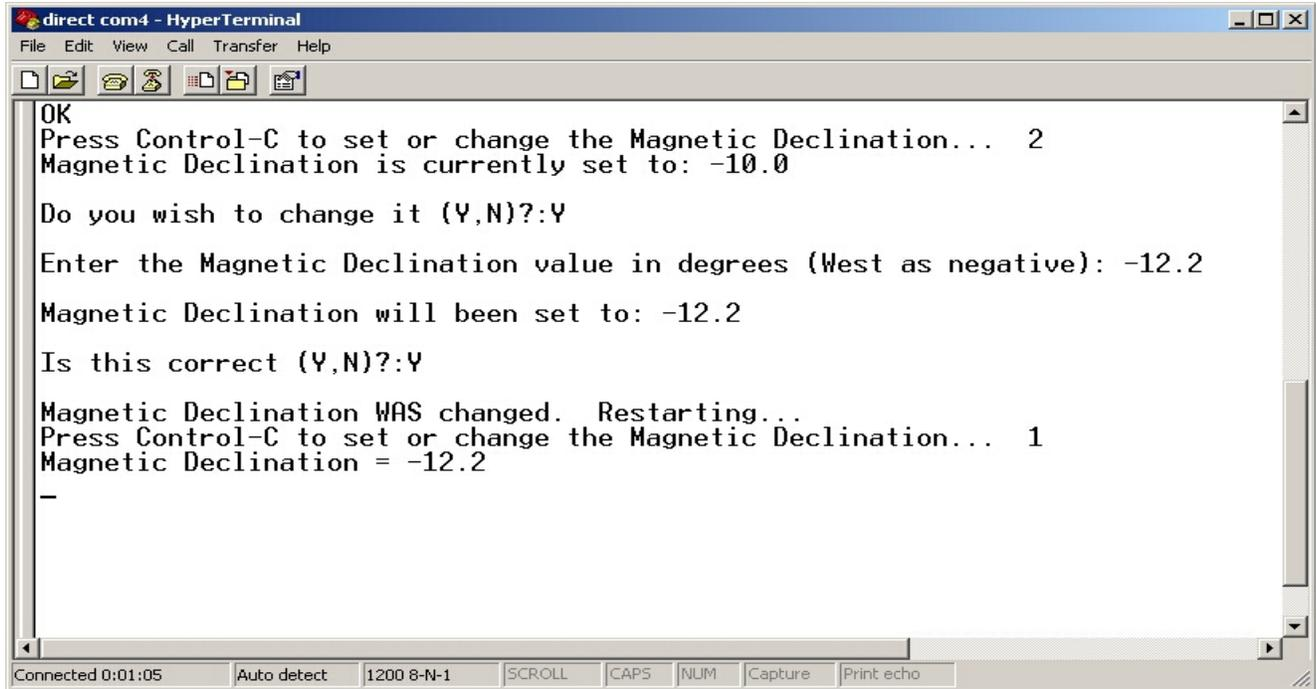

Figure 1
6.2.4 Turn on the power to the remote station and observe the screen on the PC. The declination software tells you the current setting for the declination, and gives you 10 seconds to type CTRL-C (hold the CTRL key down then hit the C key) Please refer to Figure 1. This is a screen capture of the declination setting procedure. Once the procedure is completed, the Weather Station will start to output the SAM station data. The declination calibration is complete and the station may be set up in the field. Be sure to turn the power off in the remote station before moving the station to the field or storing it in the transit case.